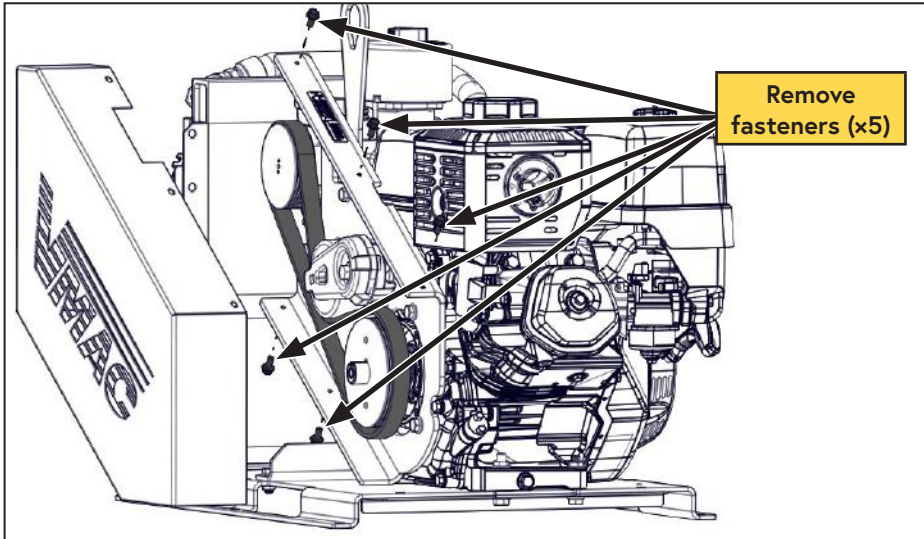

Figure 66 — Inspecting the drive belt
- ☐ Remove the (x5) fasteners from the belt guard and remove the belt guard (Figure 66).